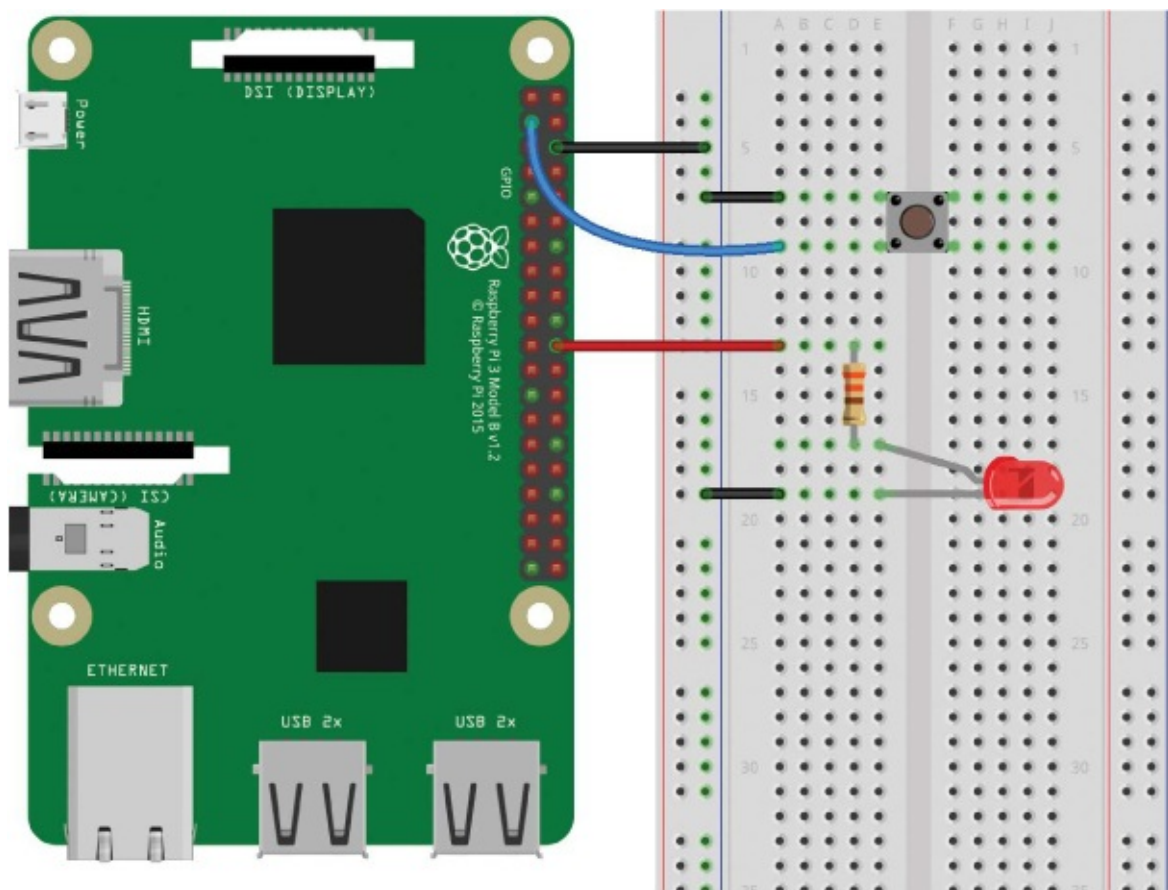

FIGURE 2-3: The LED flashlight circuit
Follow these steps to create your circuit, using Figure 2-3 as a reference:
4. Connect one side of the pushbutton to GPIO 2 and the other to GND, as shown in Figure 2-3.